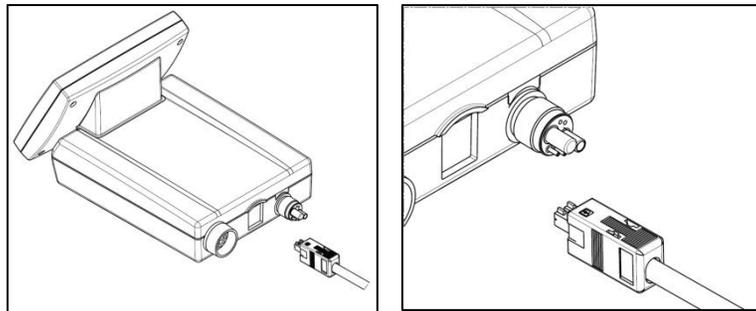

Figure 4 – Connect Power Supply
1. Connect the power supply cord to the back of the control unit as shown in Figure 4 below.